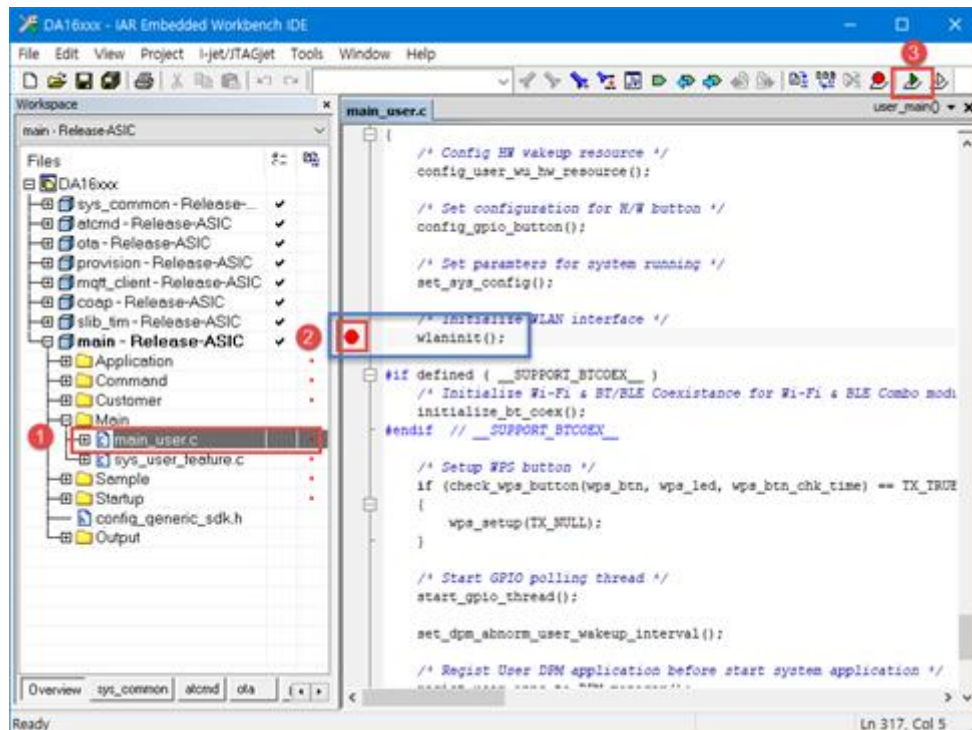

Figure 44: Download and Debug
6. Setup a breakpoint (1), and then click **Download and Debug** (2). See Figure 44.